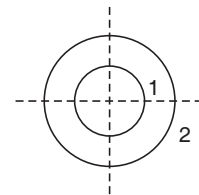

FIGURE 15.1
32. Consider two infinitely long thin concentric tubes of circular cross-section as shown in Fig. 15.1. If D_1 and D_2 are the diameters of the inner and outer tubes respectively, then the view factor F_{22} is given by